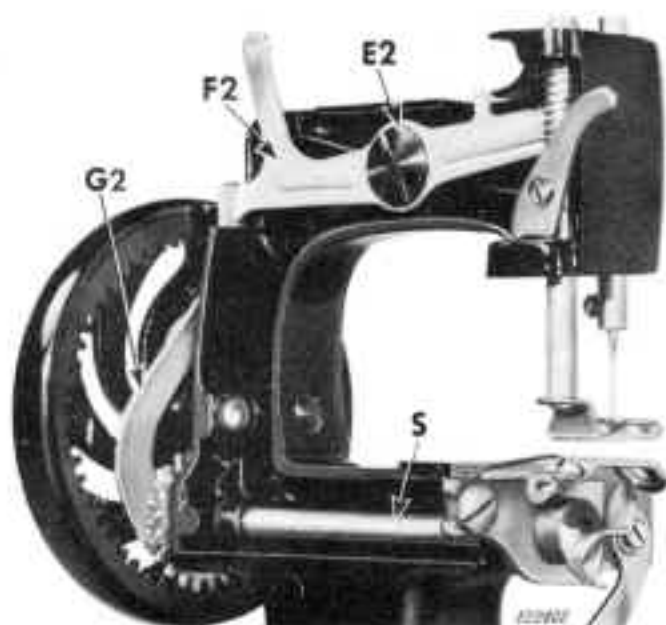
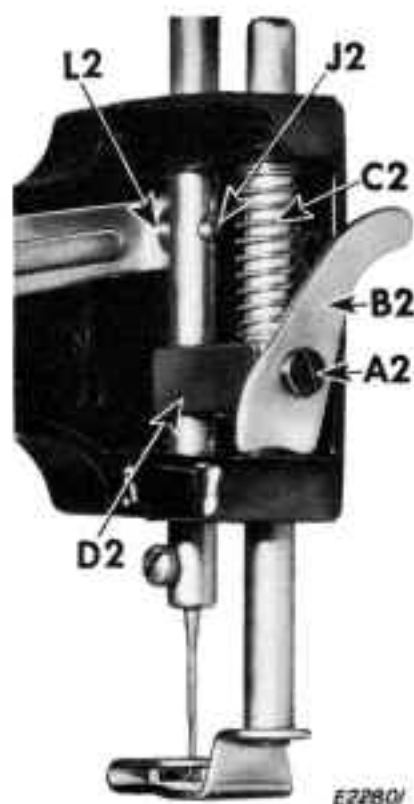

Fig. 14. Removing Needle Bar
Fig. 15. Removing and Replacing Presser Bar
5. Remove hinge screw **E2**, **Fig. 14**. Then disengage connecting stud **J2**, **Fig. 15** from "socket" **L2** in needle bar lever.
1. Insert needle bar so that it fits between sides of guide bracket **D2**, **Fig. 15**.
2. Insert connecting stud **J2**, **Fig. 15** in needle bar hole with round head of stud on same side of needle bar as the number "6" stamped near top of needle bar.
3. Fit round head of connecting stud **J2** into "socket" **L2** as shown in **Fig. 15**.
4. Replace and secure hinge screw **E2**, **Fig. 14**.
6. Lower presser bar and remove screw **A2** and lifting lever **B2**, Fig. 15. While holding spring **C2** and guide bracket **D2** in place, remove presser bar. Then remove spring and guide bracket.
To replace presser bar, fit spring **C2**, Fig. 15 in position and slide presser bar up through bottom hole, spring, and top hole in machine arm. Compress spring from bottom and insert guide bracket **D2**
4. Bent or loose guide bracket **D2, Fig. 15**—(Correct)